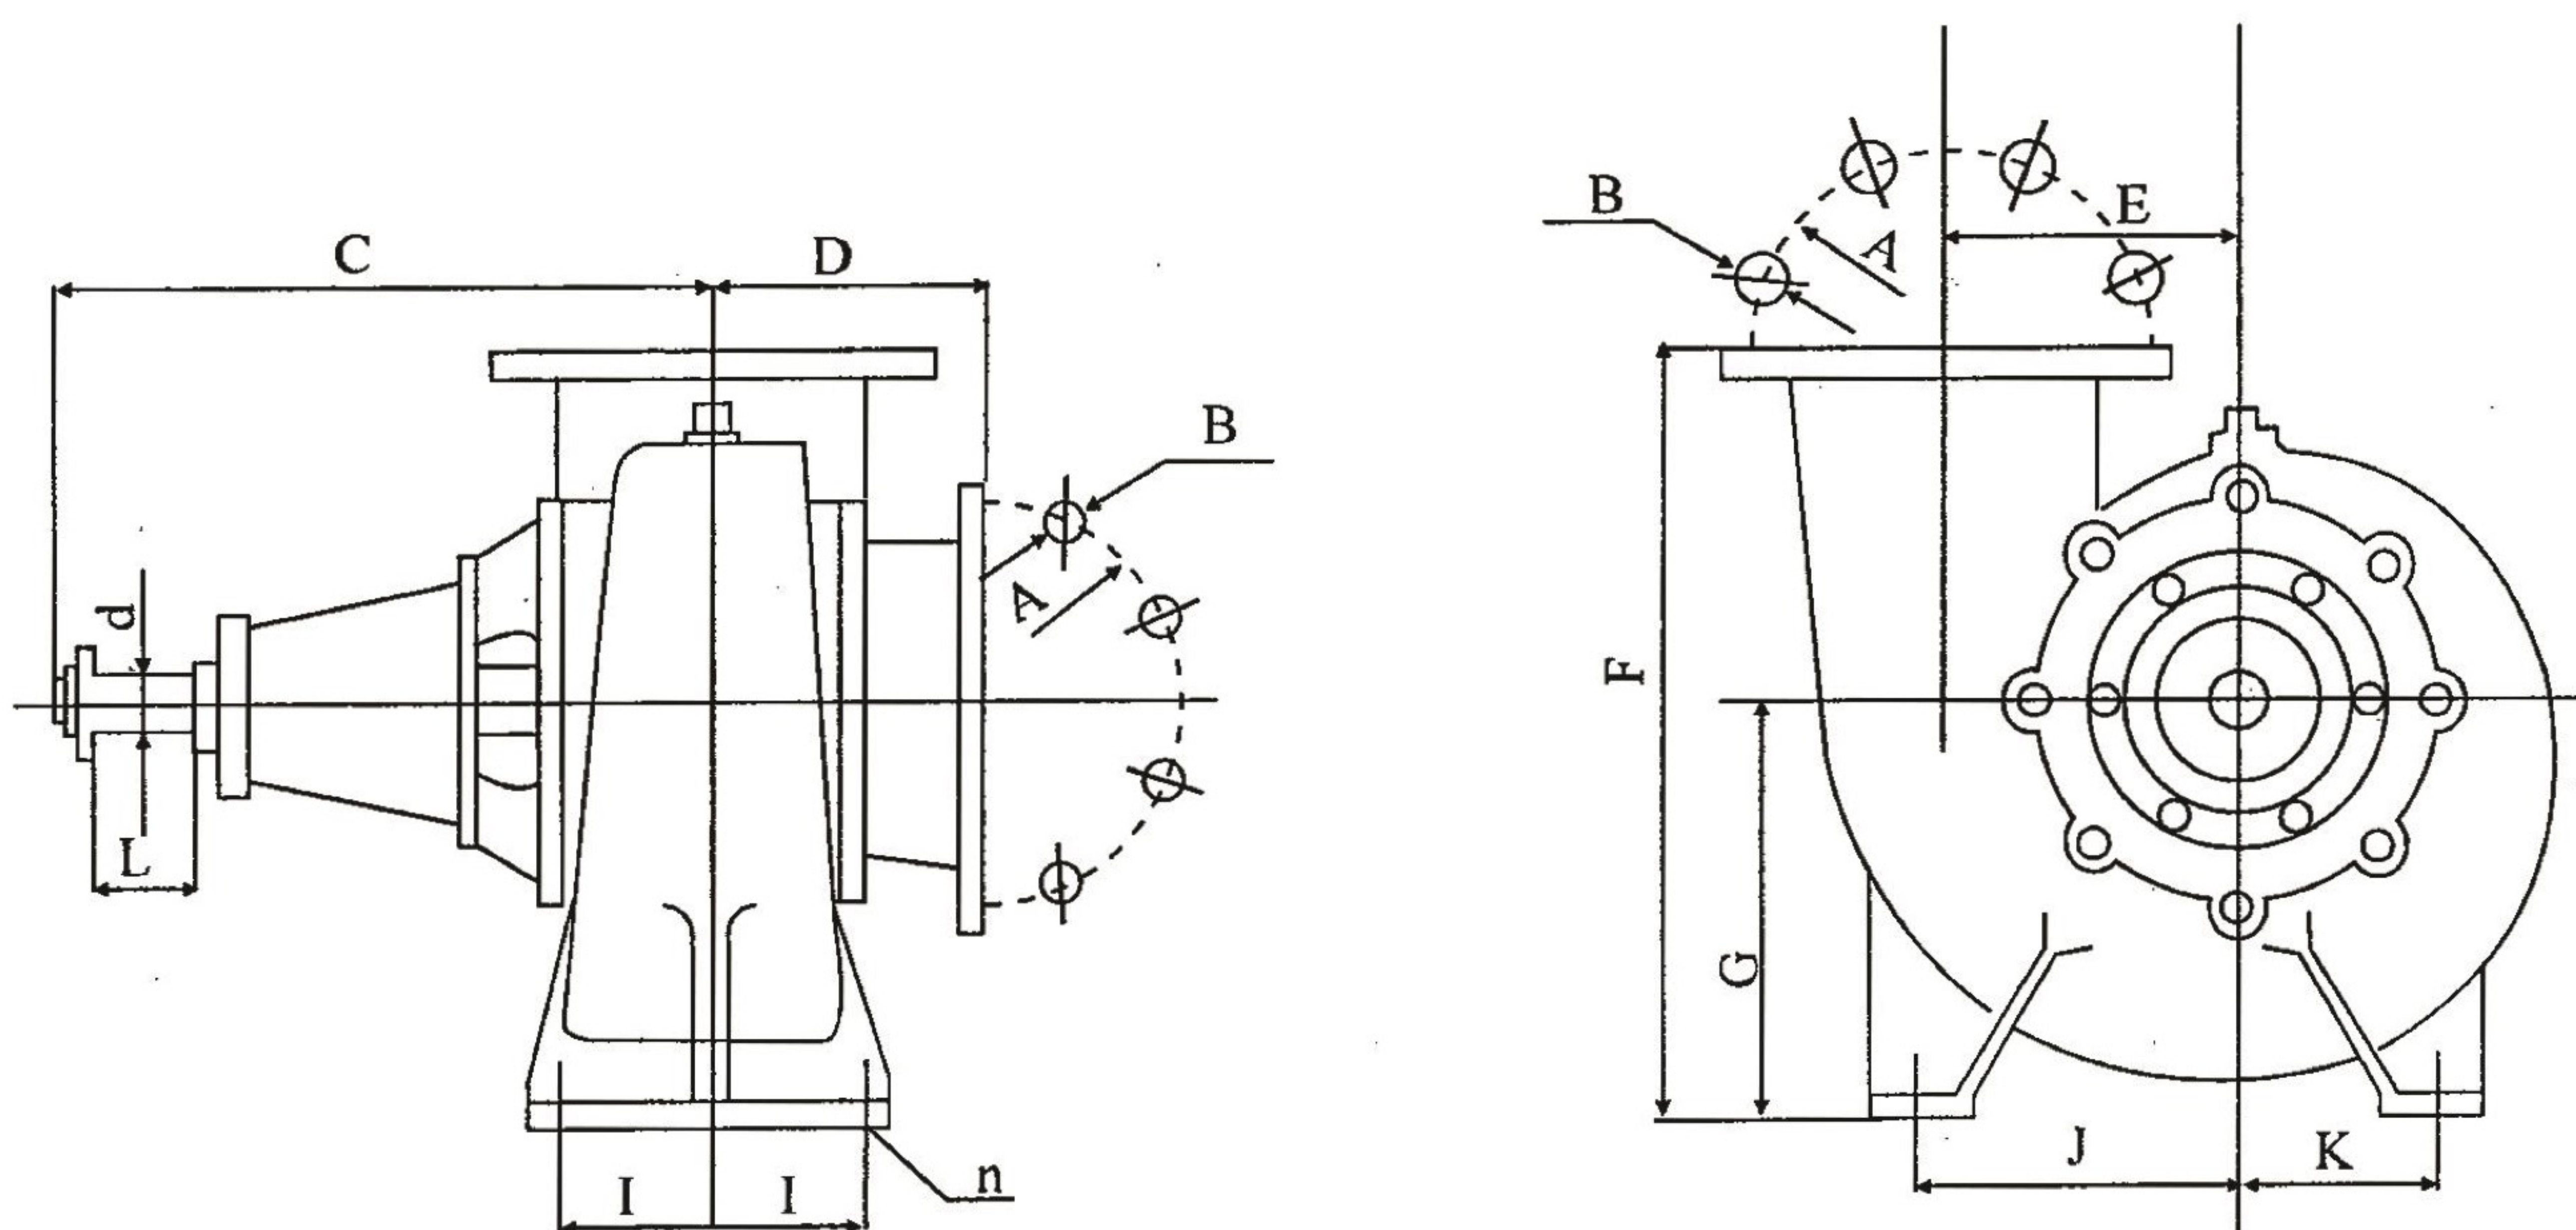

Figure 4: Installation Diagram of the 100HW-300HW and 350HW-8 Pumps with Upward Discharge
(1) See Figures 4 and 5 for the HW type pump and its outline and installation drawings
(2) See Table 5 for the external installation dimensions of the HW type pump.